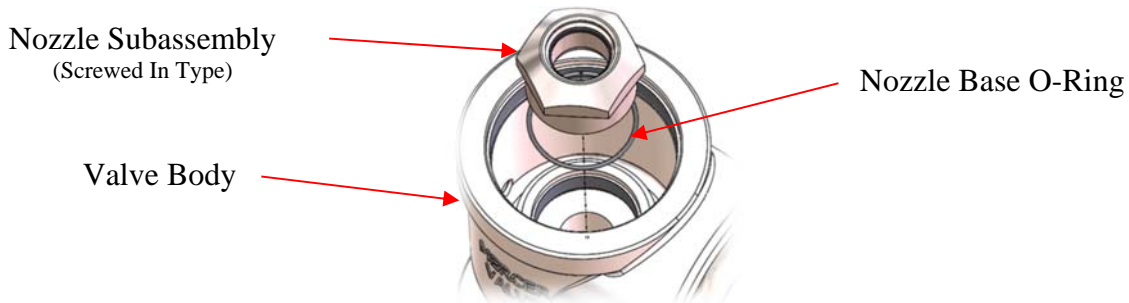

Figure 27: Top Entry Inner Components
- 7. Unscrew and discard the nozzle subassembly from the body cavity using the appropriate tool. See Table 1 and Figure 27.
- 8. Remove and discard the nozzle base o-ring. See Figure 27.